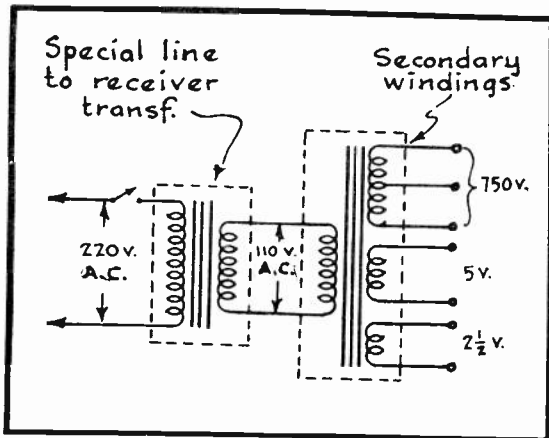

Fig. 2
2. - ANOTHER SOLUTION IS TO LEAVE THE ORIGINAL POWER TRANSFORMER IN THE RECEIVER AND TO CONNECT A SPECIAL LINE TRANSFORMER BETWEEN THE A.C. LINE AND THE PRIMARY WINDING OF THE RECEIVER TRANSFORMER AS SHOWN IN FIG. 2. THE PRIMARY WINDING